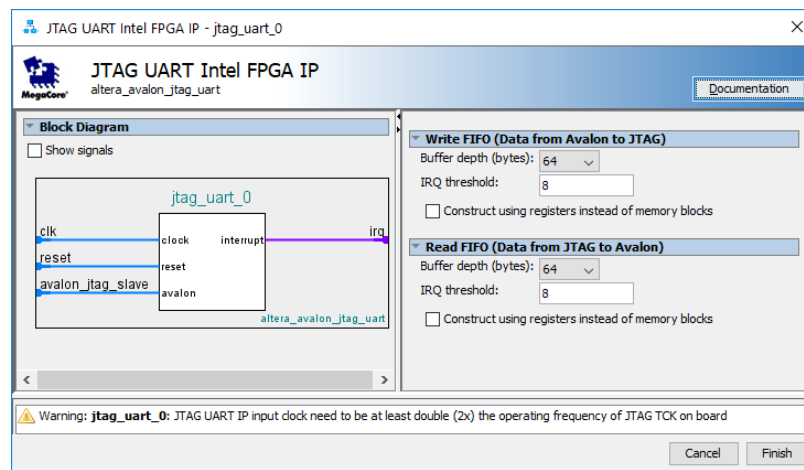

Figure 13. Define the JTAG UART interface.
- Select Interface Protocols > Serial > JTAG UART Intel FPGA IP and click Add to reach the JTAG UART Configuration Wizard in Figure 13